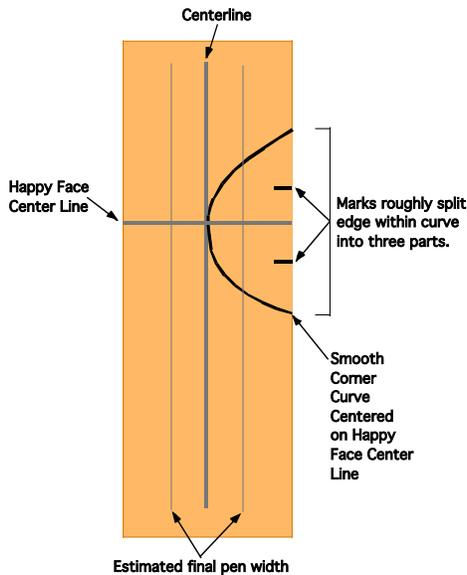

Figure 3 – Marks 1/3 of the way from each end of the edges of the corner curve
5. Measure the WIDTH of the corner curve at the EDGE of the blank and put TWO MARKS at the edge of the blank that are approximately 1/3 of the way from the ends of the corner curve. Figure 3 shows the location of these marks.